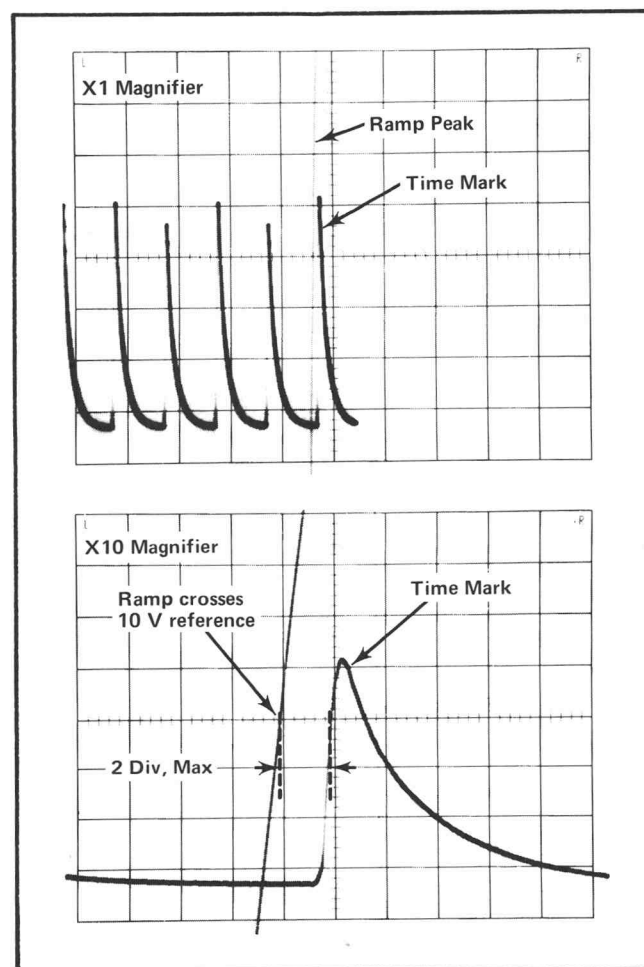

Fig. 5-3. Typical display of ramp and time marks for step 16.
g. Display ramp and time marks as shown in Fig. 5-3.